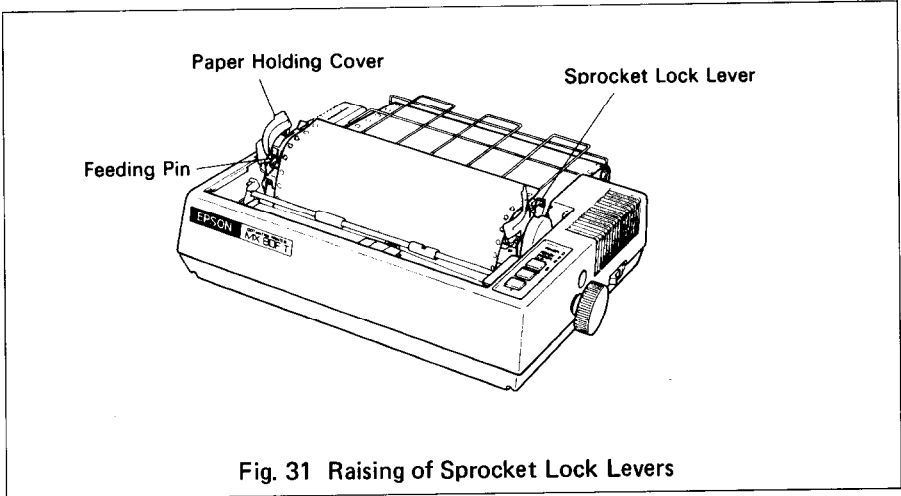

Fig. 31 Raising of Sprocket Lock Levers
STEP 8. Raise the two sprocket lock levers to loosen, and adjust the sprocket pin position to the paper width. (See Fig. 31.)